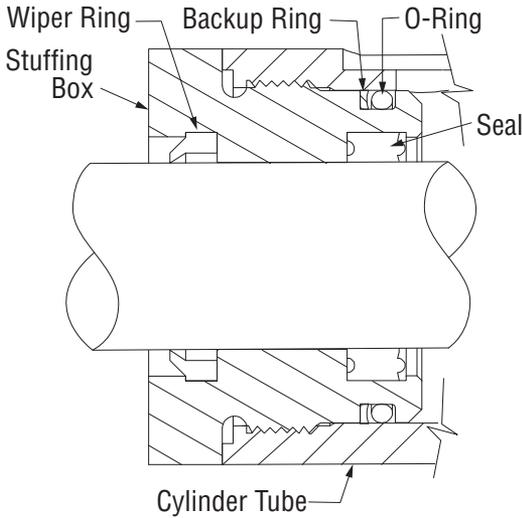

Figure 4-6, Stuffing Box Seal
2. Install the seals and the wiper ring in the stuffing box, taking care to place them in the correct direction. Improper installation will result in poor performance. (Figure 4-6)